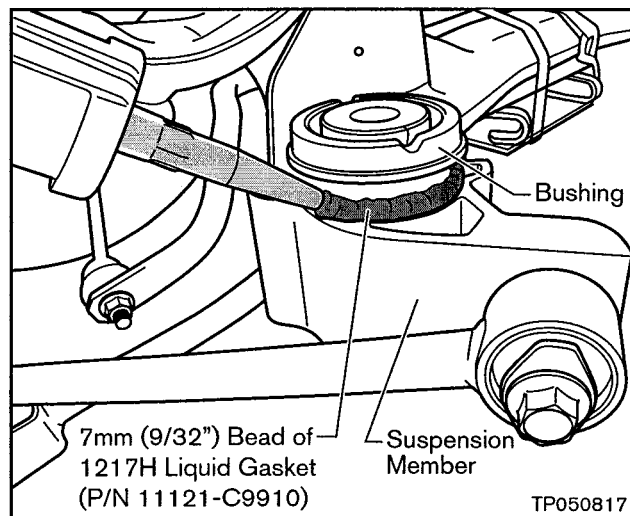

Figure C9
- c. To ensure a good seal, apply a 7mm (9/32") bead of 1217H Genuine Nissan Liquid Gasket (P/N 11121-C9910) around the bushing as shown in Figure C9.